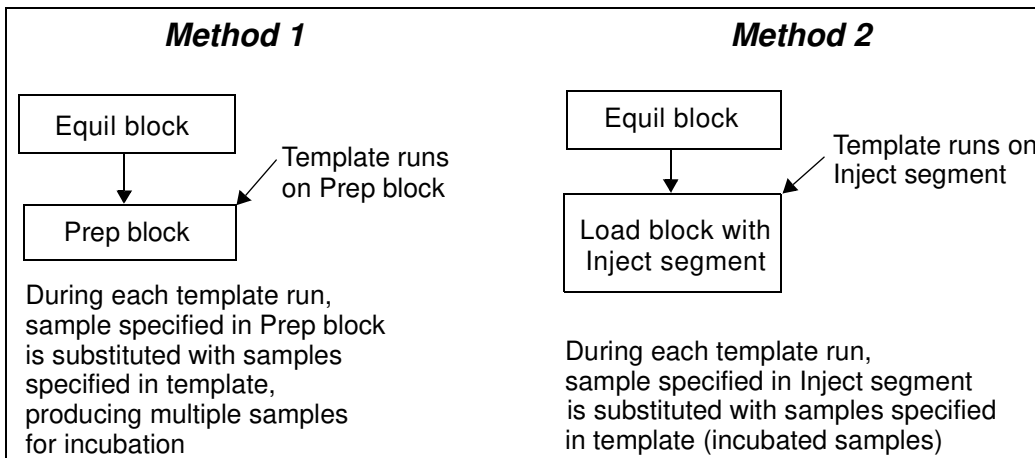

Figure 7-9 Using Analysis Template for Analysis and Preparation (Requires Two Methods)
- **Analysis and Preparation**—Prepare multiple samples for incubation using one method, and then inject these samples using another method. Your autosampler must support sample preparation (Figure 7-9).
<p>Analysis and Preparation— Prepare multiple samples for incubation using one method, and then inject these samples using another method (Figure 7-9)</p>	<ul style="list-style-type: none"> • An AS 3500 integrated autosampler that supports the sample preparation option is configured • Sample vials are loaded in the AS 3500 autosampler and entered in the Sample Table • First method contains a Prep block that prepares sample for incubation • Second method contains a Load block with an Autosampler Inject segment that injects the product (Derived vial) of the Prep block